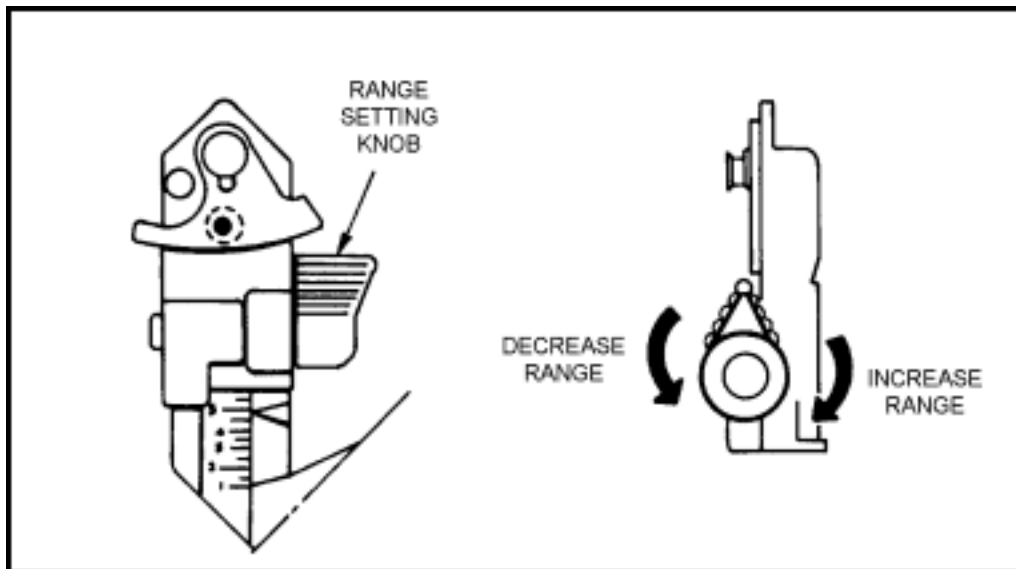

Figure 3-11. Adjusting the rear sight range setting.
(1) The leaf blade that covers the 7-mm peephole has its own tiny 2-mm peephole. To uncover the 7-mm peephole, pull the bottom of the leaf blade out slightly and rotate it right and up. To cover the 7-mm peephole, rotate it back down and ensure the leaf blade is seated. The range indicator scale is indexed from 100 to 500 meters in 50-meter increments.
(2) To increase the range setting beyond 200 meters, turn the range adjustment knob clockwise, or vice versa (Figure 3-11). You must remember to reset the range to 200 meters when you close the rear sight. Otherwise, closing the sight cover will break off the rear sight.